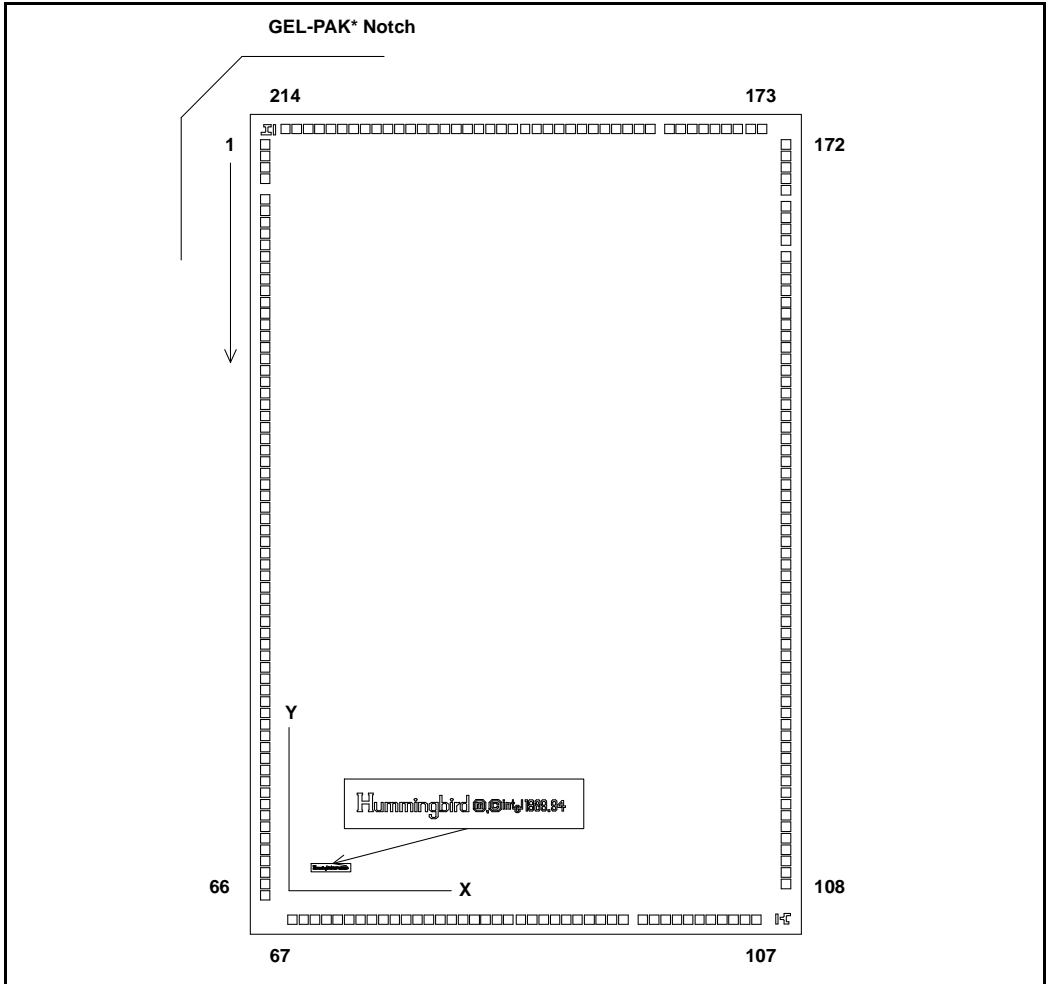

Figure 2. Embedded Ultra-Low Power Intel486™ SX Processor Die/Bond Pad Layout
- Figure 2. Embedded Ultra-Low Power Intel486™ SX Processor Die/Bond Pad Layout 2